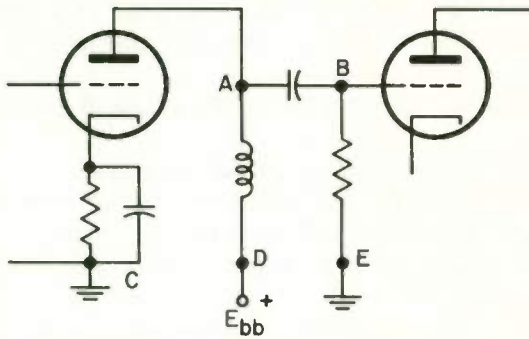

Fig. 32
7. Figure 32 shows a method of impedance coupling between two audio amplifier stages. This circuit needs correction as follows: